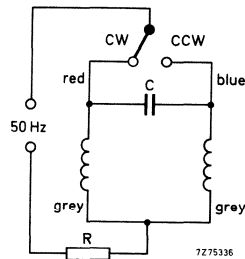

Fig. 3 Connection of the series resistor.
2. For operation from 220 V, 50 Hz mains voltage, a series resistor of 6,8 kΩ, 2,5 W should be used (Fig. 3).